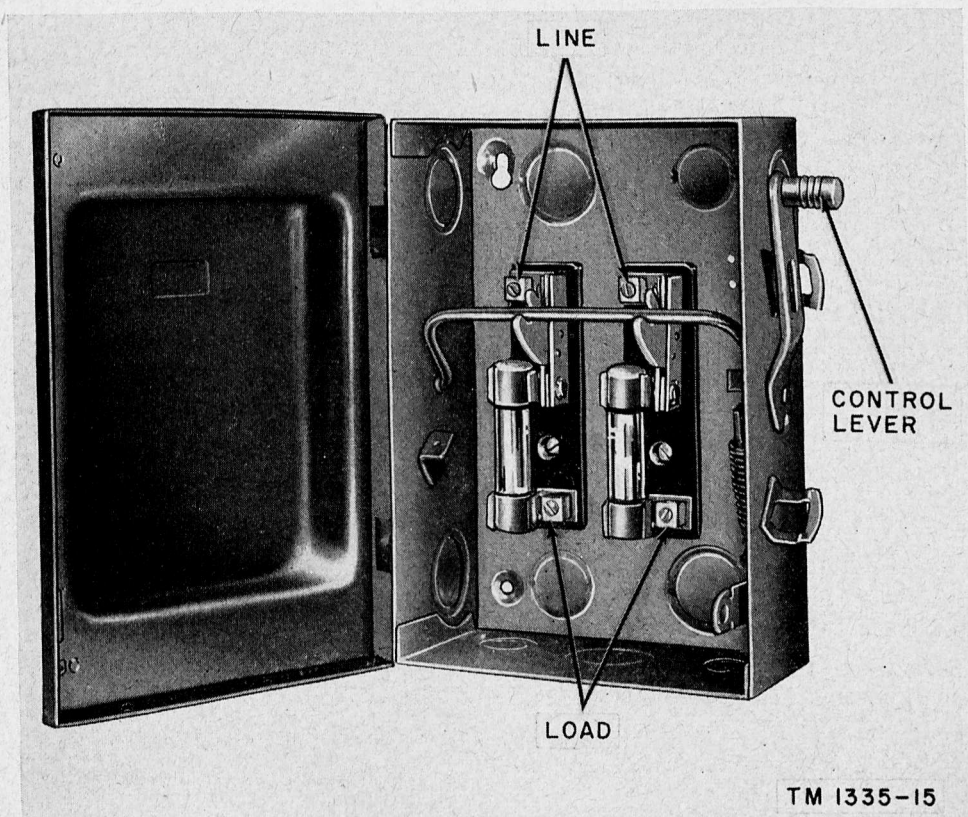

Figure 14. Switch Box SA-283/SPN-11, front view.
- (2) Switch Box SA-283/SPN-11 (fig. 14) is used on 24- or 32-volt, d-c supply lines. Its use is identical to that of Switch Box SA-284/SPN-11.